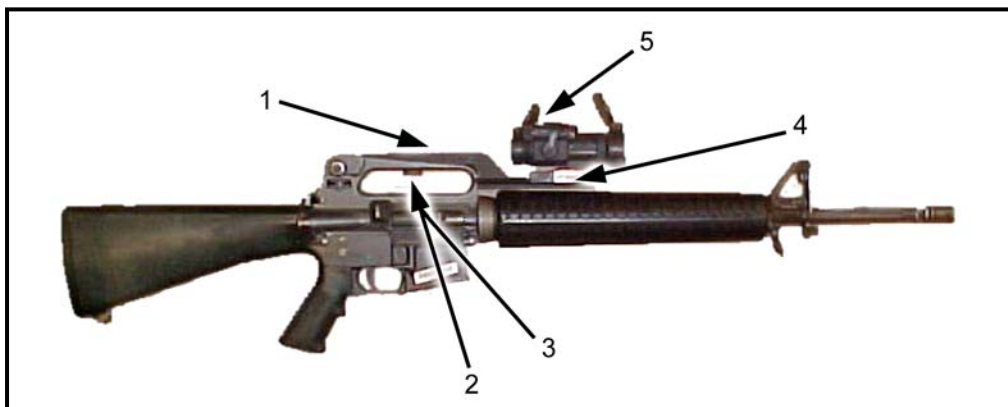

Figure 2-24. Mounting the M68 to the M16A1/A2/A3.
a. **M16A1/A2/A3 Rifle** (Figure 2-24). The M68 mounts on the M16 mounting bracket (1) that attaches to the carrying handle on the M16A1/A2/A3. The half-moon spacer should not be installed but, if installed, it will not hinder firing performance. Firmly hand-tighten the bracket (1), O-ring (2), and machine screw (3). Align the locking bar (4) under the M68 with the notch in the rail ensuring the rotary switch (5) is facing the firer. Tighten the torque-limiting knob (not shown here) until it clicks two times.